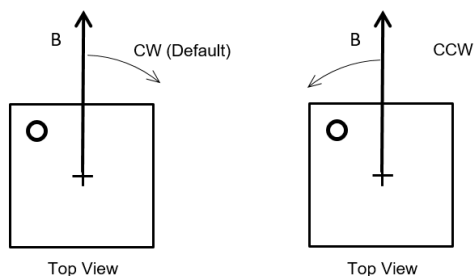

Figure 27: Positive Rotation Direction of the Magnetic Field
field rotates clockwise (CW) (see Figure 27 on page 29).